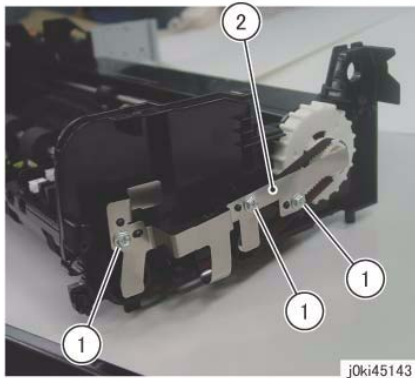

Figure 6 Remove the Ground Plate
16. Remove the Ground Plate at the front. (Figure 6)